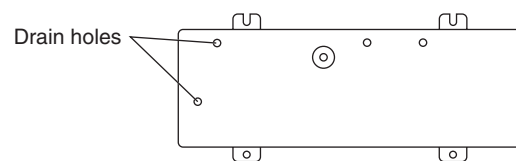

Fig. 5c
- provide a solid base (level concrete pad, concrete block or equal), a minimum of 4" (10 cm) or 6" (15 cm) above ground level to reduce humidity and protect the unit against possible water damage and decreased service life. (Figs. 5c and 5d or 5e)